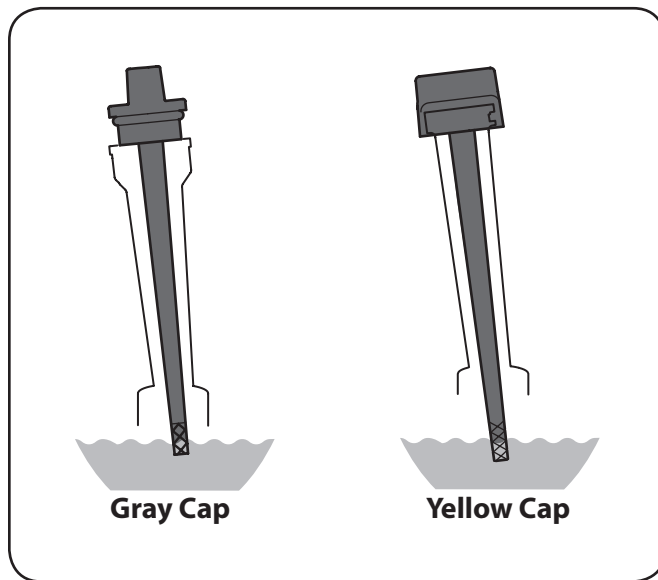

Figure 3-3
2. Insert the cap/dipstick into the oil filler neck, but do not screw it in. See Fig. 3-3.
2. Insert the dipstick into the oil filler neck. Turn the dipstick a 1/4 turn into the locked position to fully seat. See Fig. 3-3.